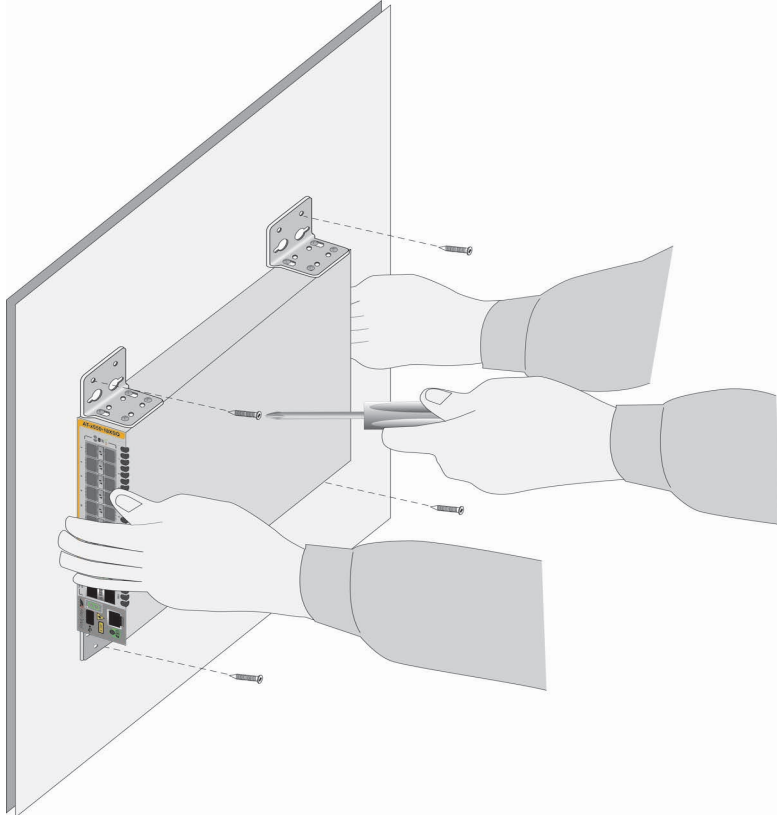

Figure 47. Installing the Switch on a Concrete Wall
8. Have another person hold the switch at the selected wall location while you secure it to the wall with the M4x32mm provided screws. Refer to Figure 47 on page 87.